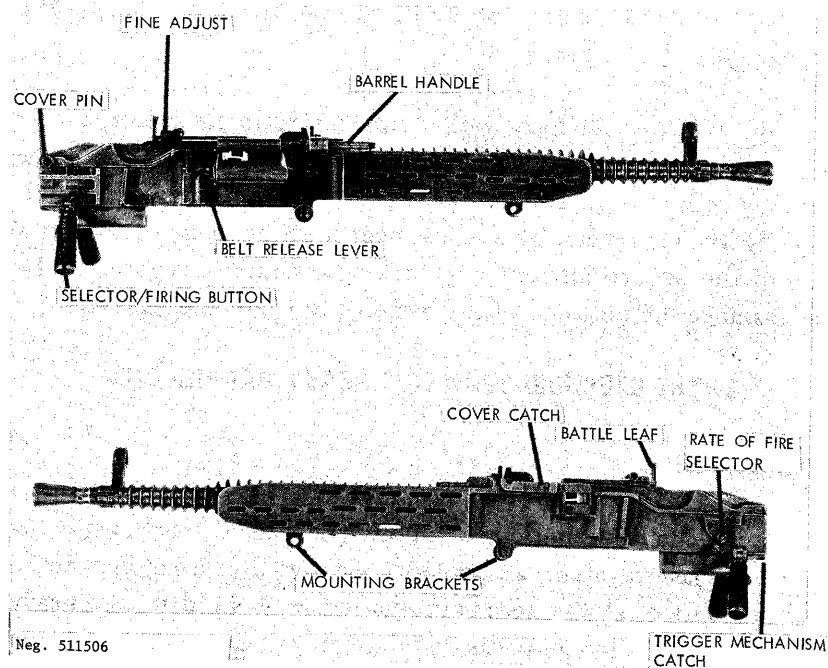
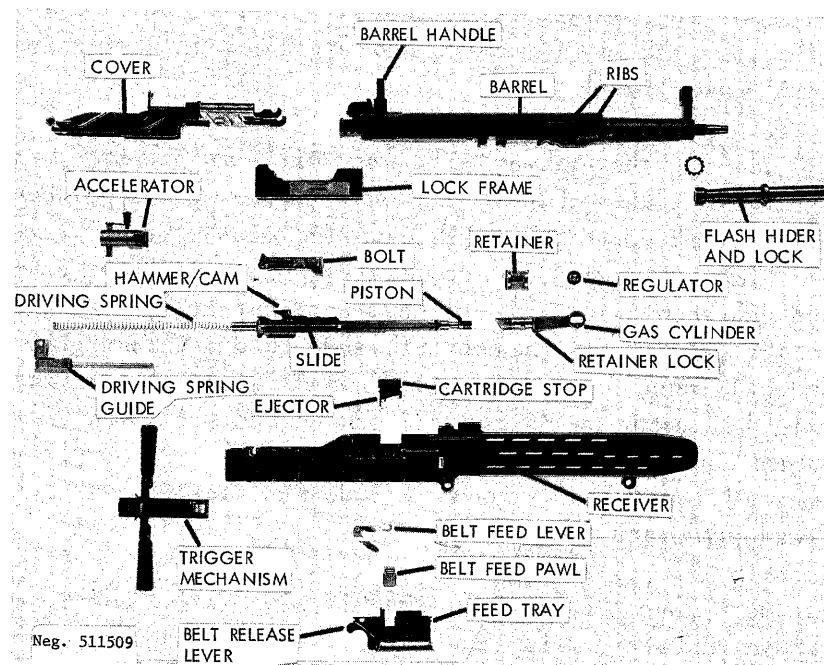

Figure 207. ZB-37 heavy machinegun.
Figure 210. ZB-37 disassembled.
a. The Czechoslovak ZB37 (fig 207) machinegun, a belt-fed, gas-operated, air-cooled, selective-fire weapon with a selective fast or slow rate of automatic fire, is fired from a heavy tripod mount. This gun was standard in the Czechoslovak army prior to World War II and was used by the German army throughout the war. In the post-war years, this weapon has been produced for export sales and can be found in use in a number of smaller nations; occasionally, it is found in use by guerrilla units. ZB37 is the Czechoslovak military designation for this gun, but some are marked MG37 (t) which is the German World War II designation; both are the same weapon, but minor changes such as finned barrels will be found.
are in position. If necessary, rotate the selector (fig 207) from its center position. Press up the trigger mechanism catch (fig 207) and, by means of the grips, slide the entire trigger mechanism forward as far as possible. Release the trigger mechanism catch and vigorously pull the grips rearward until the trigger mechanism latches into place.
e. For long range firing, lift the rear sight leaf and, after pressing the catch on the left side of the slider (fig 209) up and in, move the slide along the leaf until the upper edge of the slide is aligned with the figure that corresponds to the range in hundreds of meters. The left side of the leaf is graduated for 154-grain (light) bullets and the right side is graduated for 198-grain (heavy) bullets; be sure to use the appropriate scale. For firing at ranges to 300 meters, fold the leaf down and use the battle leaf (fig 207).
automatic is chosen, set the rate of fire selector (fig 207) to its upper position for the slow rate or to its lower position for the fast rate of fire.
h. To unload the weapon when a partial belt has been fired, set the selector to its mid position, swing the belt release lever at the rear of the feed opening (fig 207) to its vertical position, and pull the belt out of the gun. If the belt does not readily come out, pull the cover pin (fig 207) to the right and lift the cover; then pull the belt out. To close the cover, lift it slightly, press the cover catch (fig 207) to the rear, and ease the cover down. Slide the cover pin to the left. It may be necessary to strike the rear of the cover with a balled fist to seat the cover.
i. To clear the gun, set the selector to its midposition, pull out the cover pin, and press and hold the cover catch to the rear. Swing the cover all the way up and forward. If necessary, cock the bolt (para 224c). Inspect to insure that no cartridges are present in the barrel, feedway, or receiver. Close the cover by pressing and holding the cover catch to the rear and then swinging the cover closed. Press the cover pin to the left. Grasp the grips, and without touching the firing button, press up on the trigger mechanism catch (fig 207), and ease the bolt and trigger mechanism forward. Pull outward on the grips and then swing them upward along the side of the receiver. Set the selector to its midposition, fold the sight leaf, and remove the gun from the mount by pulling out the mounting pins.
j. The ZB37 has an extremely heavy barrel to absorb firing heat, but when the barrel has fired about 500 rounds continuously, it should be changed. Cock the gun (para 224c), lift the barrel handle (fig 207) until it just clears its seat, press the cover latch rearward, and slide the barrel handle fully forward. Lift the handle to the vertical position; the barrel will start up, out of the barrel extension. Lift the barrel up and slide it forward until it is free. Mate the ribs (fig 210) of a cool barrel with the tracks in the front of the receiver, and lower the barrel until it rests on the barrel extension. Pull the barrel to the rear until it starts to drop into place; turn the barrel handle down and pull it rearward until it snaps into its seat. The gun is now ready to fire again.
k. The ZB37 has an adjustable gas regulator to compensate for varying quality ammunition or a fouled gun mechanism. To adjust the gas regulator, remove the barrel (j above). Press in the retainer lock and rotate the retainer (fig 210) until it is disengaged from the barrel. Pull the rear end of the gas cylinder (fig 210) away from the barrel until the entire gas cylinder comes free. An index dot is on the side of the gas cylinder, behind the elongated slot for the regulator. The regulator has two varied-size dots on each side; these dots indicate the relative size of the gas port in use. Normally, the smallest dot is aligned with the index dot. Slide the regulator sideways out of the gas cylinder and turn it so that the appropriate dot is aligned with the index dot; then slide the regulator into place. Place the gas cylinder into its seat in the barrel and swing it down until the retainer seats against the barrel. Rotate the retainer until its lock snaps into place, and replace the barrel in the gun.
out the cover pin (fig 207), press back on the cover catch (fig 207), and open the cover.
b. Rotate the rate-of-fire selector (fig 207) upward and remove the accelerator (fig 210). Press in the knurled button on the cartridge stop (fig 209) and lift it off the gun. Pull back on the grips to cock the gun and lift the feed tray off the receiver. Remove the barrel (para 224j); then swing the feed cover fully forward and remove it.
d. Pull the slide rearward in the lock frame until it is completely out; then move the bolt rearward on the slide until it can be lifted off. Press downward on the firing pin retainer until the firing pin and its spring come out of the bolt. Lift the belt feed lever (fig 210) out of the receiver.